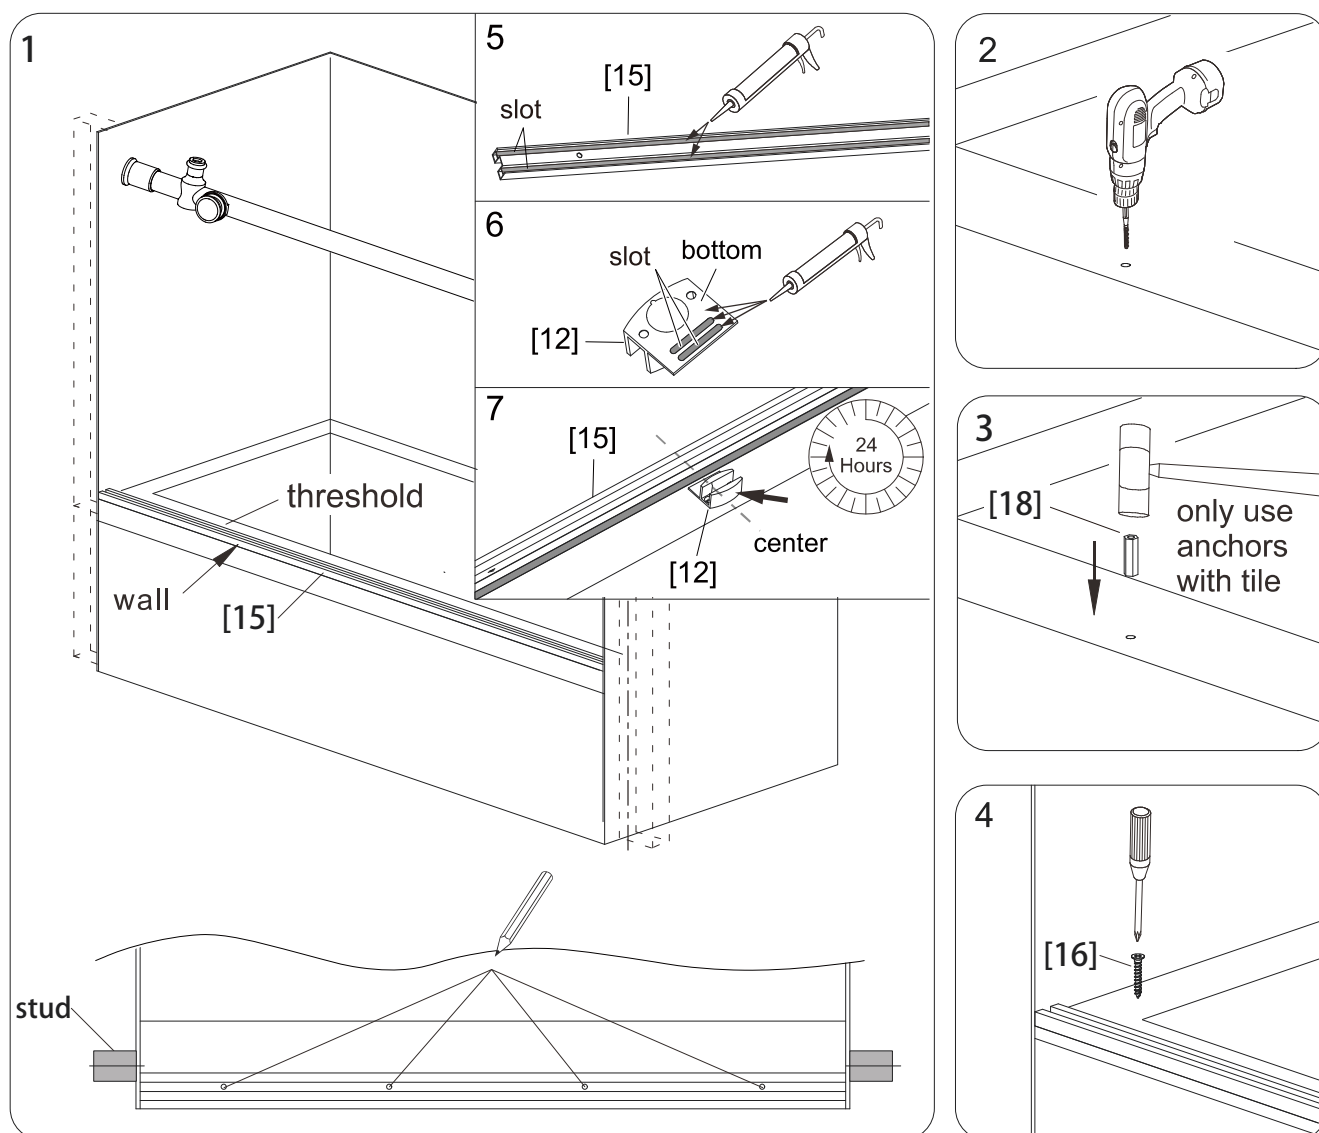

Fig 4b
1. If this shower door is intended to be installed with **Bottom Rail [15]** flushing with the outside wall, slightly position the **Bottom Rail [15]** flushing with the outside wall. If this shower door is intended to be installed with **Bottom Rail [15]** behind the outside wall, slightly position the **Bottom Rail [15]** with outer side of it aligns with the marked lines on the side wall. Mark the screw holes through the **Bottom Rail [15]**. (Fig 4b.1)
2. Remove the **Bottom Rail [15]** and drill a $\frac{1}{8}$ " hole at each marked location if drilling into acrylic or wood material. Drill a $\frac{7}{32}$ " hole if drilling into tile material and insert the **Small Anchors [18]**. (Fig 4b.2, Fig 4b.3)
3. Secure the **Bottom Rail [15]** with **Screws [16]**. Then, skip to Step 5. (Fig 4b.4)
4. Apply a good quality of Silicone Sealant to the slots of **Bottom Rail [15]** and place it to the marked threshold. (Fig 4b.1, Fig 4b.5)
5. Apply a good quality of Silicone Sealant to the slots and bottom surface of **Guide Block [12]** and place it close to the center of back surface of **Bottom Rail [15]** facing to the shower room. Allow 24 hours for the silicone to cure before next step. (Fig 4b.6, Fig 4b.7)